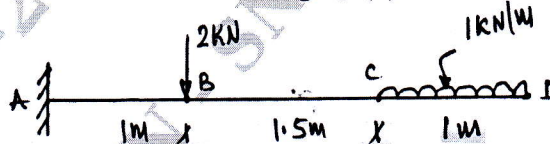

Fig Q3(b)
- b. Draw SFD and BMD for the beam shown in Fig Q3(b)